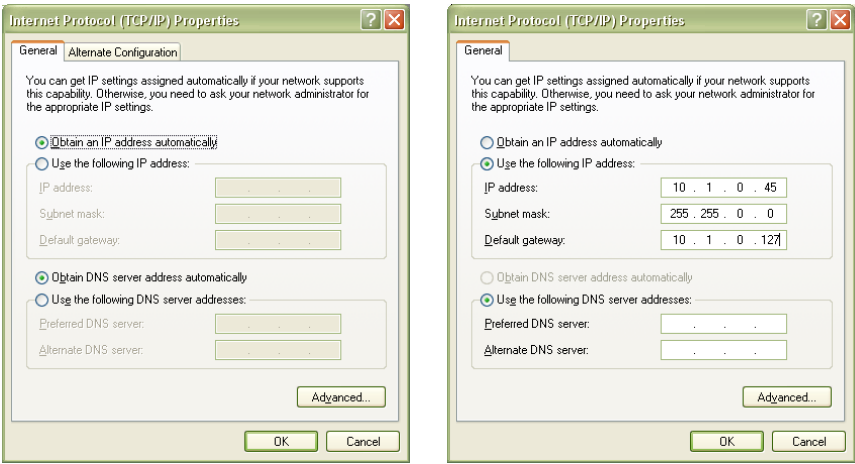

FIGURE 2-12: DYNAMIC (LEFT) AND STATIC (RIGHT) IP ADDRESS CONFIGURATIONS
- 5) Determine if the PC is set to use auto or static IP. Figure 2-12 shows examples of both auto and static IP address configurations.